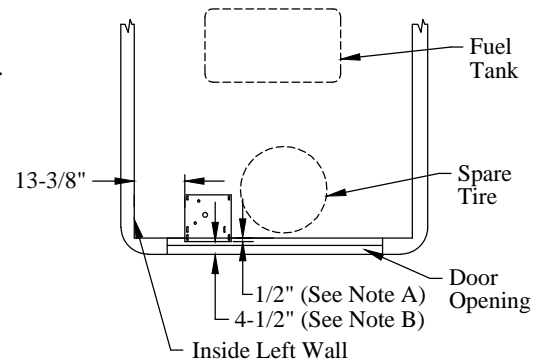

Figure 3: Base plate location and obstructions.
- 5. Position** the base plate in the van as described in notes A or B (Figure 3).